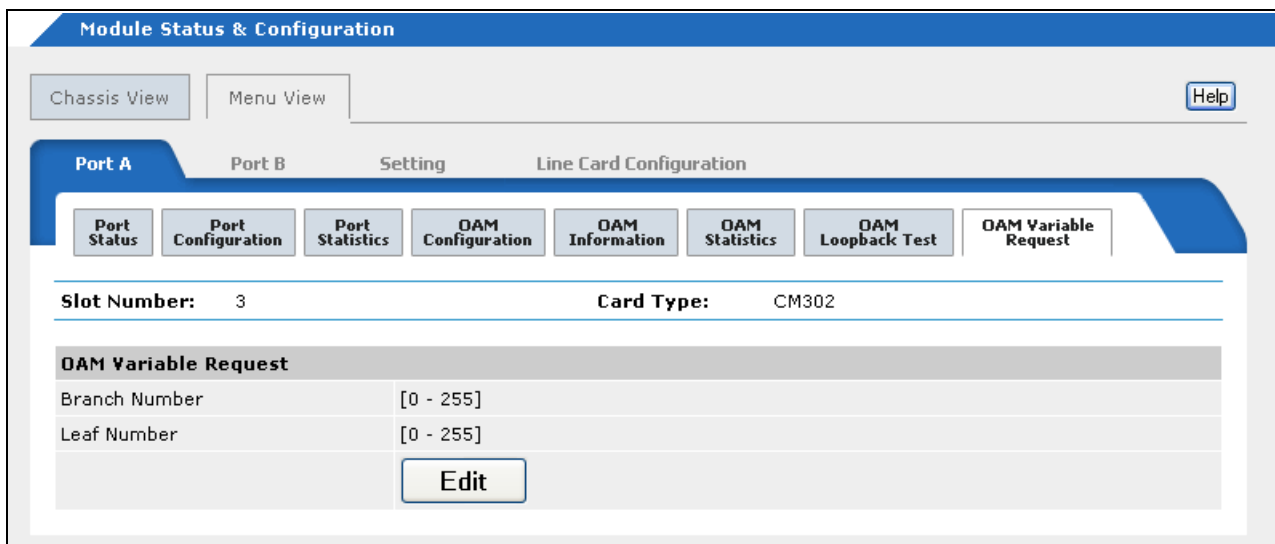

Figure 120. OAM Variable Request Tab
4. Click the **OAM Variable Request** tab to display the window in Figure 120.